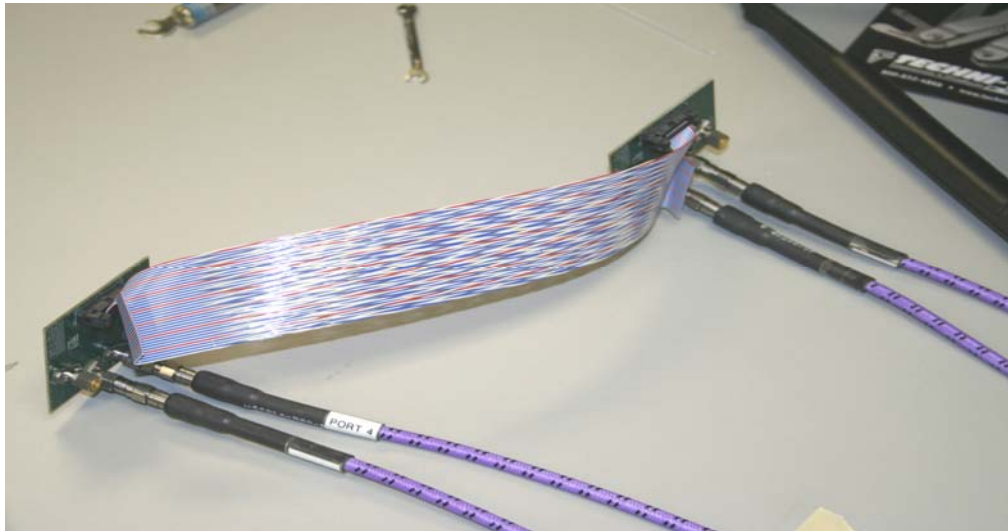

Figure 1: 4-port VNA attached to FFTP test boards with SMAs
**Test Setup:** All cable assemblies were mated to test boards which contained Final Inch®-type board launches. These boards were then attached to a 4-port VNA as in Figure 1. The test equipment was calibrated from 10MHz to 7.1GHz with an intermediate bandwidth of 1000Hz so that when translated to the time domain, the test pulse would have an equivalent rise time of 100ps. As part of the post-processing effort, the data was truncated at 1.42GHz in the frequency domain to allow for data with an equivalent rise-time of 500ps in the time domain. All frequency domain data is presented from 10MHz to 4GHz.